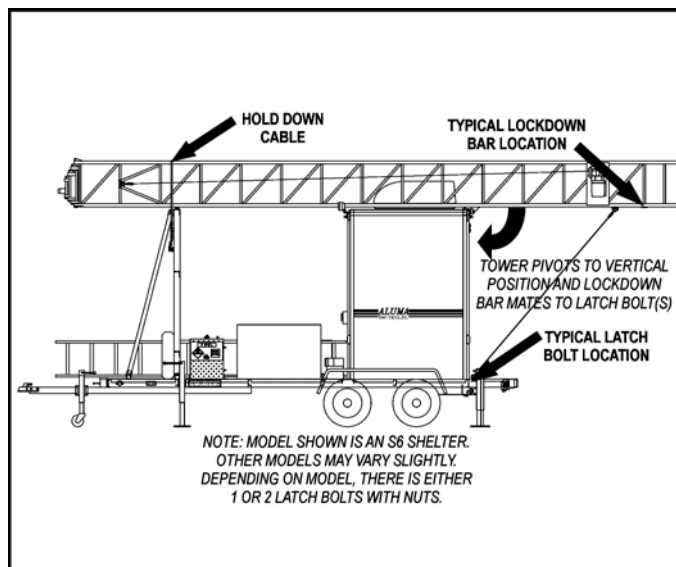

Fig. 7 Trailer Tower Component Locations
1. While the tower is still in the horizontal position, loosen and remove the hold down restraining cables that hold the tower in place for transporting. These cables are located on the front support of the trailer and/or shelter(see Fig. 7). **NOTE:** There may be more than one hold down cable at varying locations, depending on your specific model.
2. Using the manual brake winch on the rear support, crank the tower from the horizontal to the vertical position. At the halfway position undo the nut(s) from the latch bolt(s) at the bottom rear of the trailer frame (*see Fig. 7*).
3. Secure the tower in the vertical position with the tower lockdown bar pivoting over the latch bolt(s) on bottom of rear trailer frame (*see Fig. 7*). Tighten the nut(s) with wrenches supplied in tool kit, TM-TK which is stored in the #664 or #684 storage box. Drive all three “Duckbill Ground Anchors” into the ground as described in the attached instructions, AT-418-1.